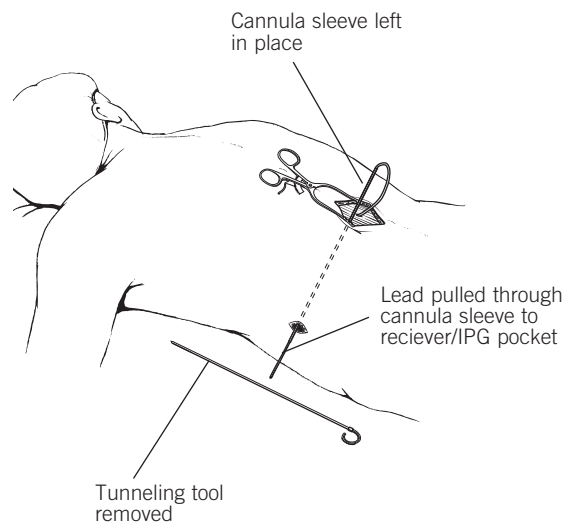

FIGURE 14
4. Carefully pass the end of the lead through the cannula sleeve from the anchor site to the receiver/ IPG pocket (see Figure 14). If a two-step tunneling procedure is used, pass the lead to the midway incision site and then to the receiver/IPG pocket. Multiple leads may be placed within the same tunnel.